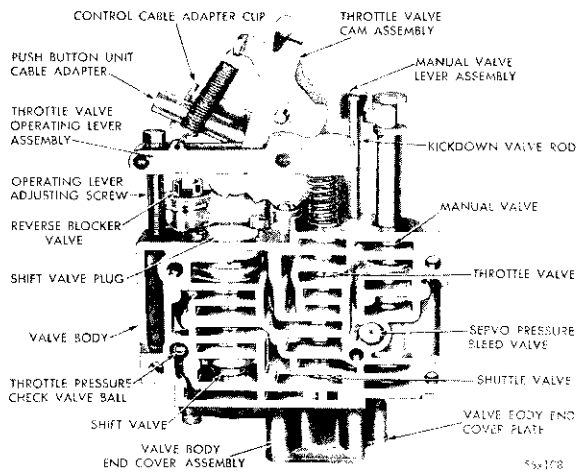
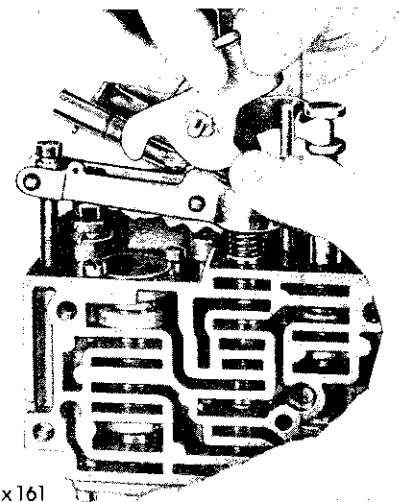
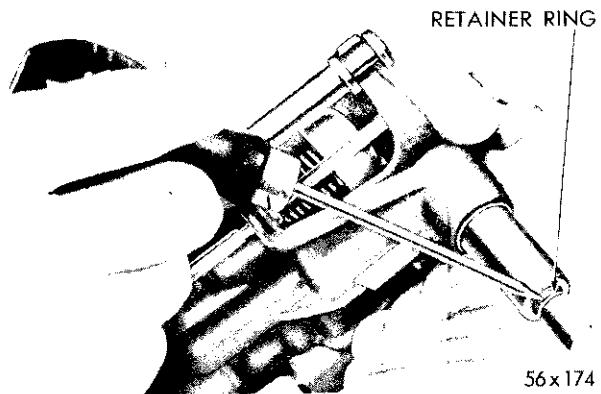

Fig. 45—Valve Body Assembly (Valve Body Plate Removed)
Fig. 46—Compressing Throttle Valve Operating Lever
Fig. 47—Removing Throttle Camshaft Retaining Ring
(4) Remove valve body plate from valve body. The servo pressure bleed valve may stick to valve body plate when it is removed. Note position of servo pressure bleed valve and pressure check valve ball. (Refer to Fig. 45.)
(5) Remove valve body from stand, Tool C-3294, and remove guide studs. Remove servo pressure bleed valve and pressure check valve ball, and place in clean container.
(6) Remove the throttle valve cam return spring from cam and throttle operating lever.
(7) Compressing the throttle valve operating lever assembly against throttle valve spring, as shown in Figure 46, rotate the throttle valve operating assembly outward from the throttle valve cam. Swing throttle valve operating lever out of the way and remove the throttle valve spring from throttle valve. Remove the throttle valve from the valve bore.
(8) Check the distance from valve body to end of throttle valve operating adjusting screw. Using wrench, Tool C-3279B, remove the throttle valve adjusting screw lever assembly. Normally, it is not necessary to remove this assembly unless damaged parts are to be replaced.
(9) Holding the manual valve lever detent plate and sleeve securely, remove small retainer ring which locks throttle camshaft in sleeve (Fig. 47). While maintaining constant thumb pressure on detent plate, carefully withdraw sleeve from valve body. Remove throttle valve cam assembly and manual valve lever assembly. Detent plate ball is spring loaded. **Do not lose the detent ball.**
(10) Remove detent ball and spring from valve body. Remove the manual valve by slowly rotating it out of its bore.
(11) Remove reverse blocker valve cotter pin, spring and valve. Remove valve by rotating it out of the bore. Do not remove push button unit control cable adapter, lock spring or cable adapter clip, unless inspection reveals it is necessary to do so (Fig. 45).
(12) Remove the four (three long and one short) valve body and cover plate bolts and lockwashers and remove valve body and cover plate.
(13) Remove valve body end cover screw and lockwasher (oval fillister). Keep pressure against valve body and cover when removing screws as there are three springs behind cover. **Do not disturb the setting.**